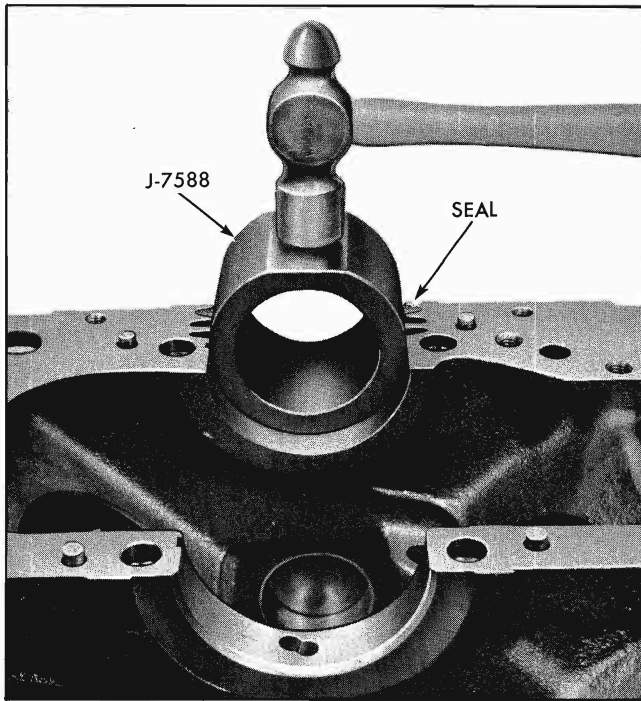

Fig. 6-81 Compressing Seal in Block with J-7588
- a. Place seal in groove in block and pack tightly with hammer and tool J-7588 (Fig. 6-81).